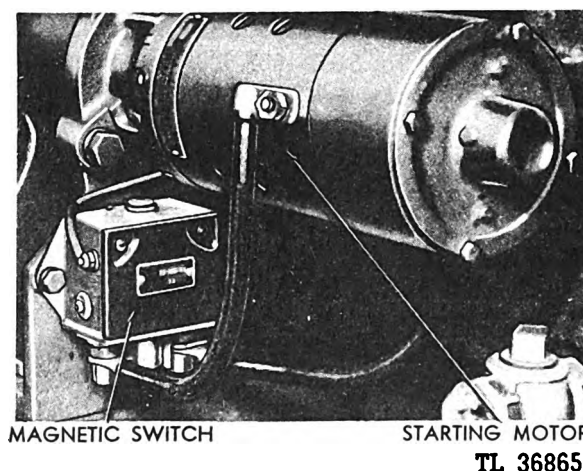

Fig. 213. Cranking Motor
**73. Cranking Motor.** The Leece - Neville 1236-M cranking motor is a series type, four-pole, four-brush motor. The current drawn by the motor is inversely proportional to the speed. Consequently, as the load drops off, the tendency is for the speed to increase. For this reason do not run the motor at the rated voltage without a load for any length of time, as it will tend to exceed the maximum allowable speed. (See Figure 213.)